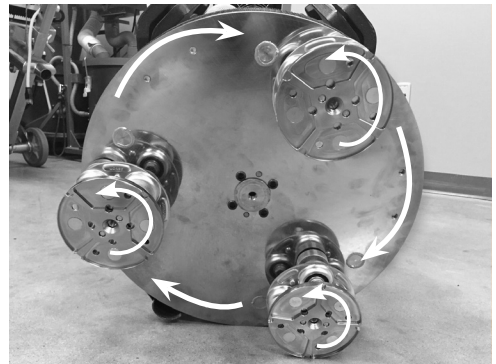

FIG. 7
- With the grinder switch in "reverse," the tooling should turn counterclockwise and the drum should turn opposite (Figure 7).